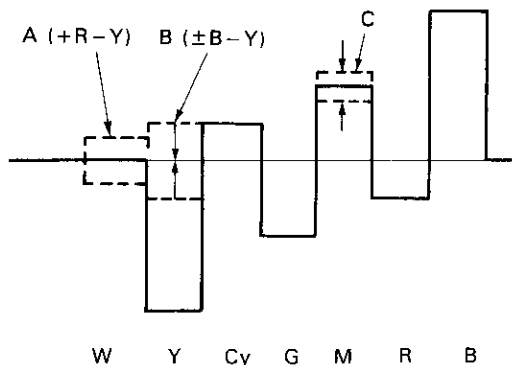

Figure 2-10. B-Y Waveform
- (8-1) Adjust R2631 (Burst Cleaning) until section A shown in Fig. 2-10 is minimized.
- (8-2) Adjust R2619 (1H GAIN) until the cracking in section B (the dotted line) shown in Fig. 2-10 is minimized.
- (8-3) Adjust L2601 (1H PHASE) until the cracking in section C shown in Fig. 2-10 is minimized.
- (8-4) Alternately perform the adjustments in Steps (8-1) to (8-3) two or three times until the waveform indicated by the solid line in Fig. 2-10 is shaped.